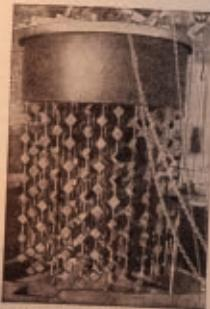

Figure 40a.—Interior of model of uranium pile.
In this picture, Figure 40a is a schematic diagram of the uranium reactor; the shaded area is the graphite casting. The entire apparatus stood in a large water tank. A neutron source is hanging in the centre, for observation; measuring leads (S) are attached near the exterior. The apparatus was still a little too small to sustain a fission reaction independently, but a slight